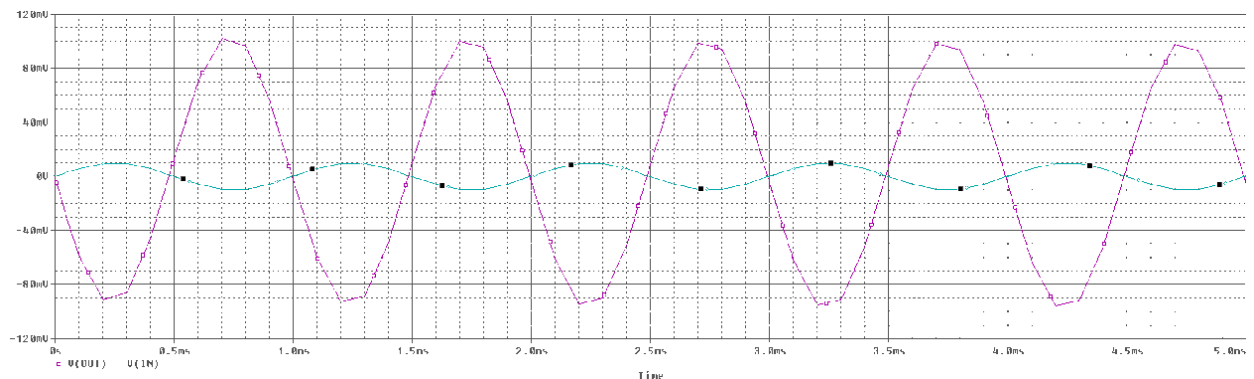

Figure 2-7. Transient analysis of the circuit.
Run the simulation and in Pspice AD, add the V(IN) and V(OUT) signals to the Plot figure in the Trace-> Add Trace menu. Study the result (Figure 2-7).